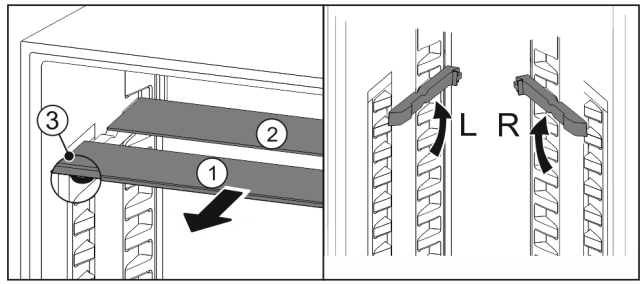

Fig. 67
- ▶ Pull the glass panels out Fig. 67 (1) from the front, one at a time.
- ▷ The glass panel Fig. 67 (1) and trim strip are at the front.
- ▷ The stops Fig. 67 (3) point down.